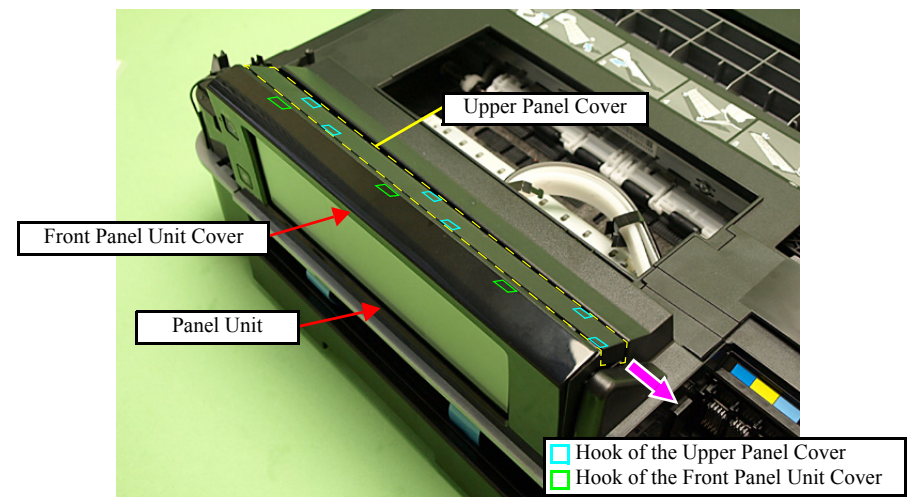

Figure 4-39. Removing the Panel Unit (1)
6. Release the hooks (x3) of the Front Panel Unit Cover. (See Fig. 4-39.)